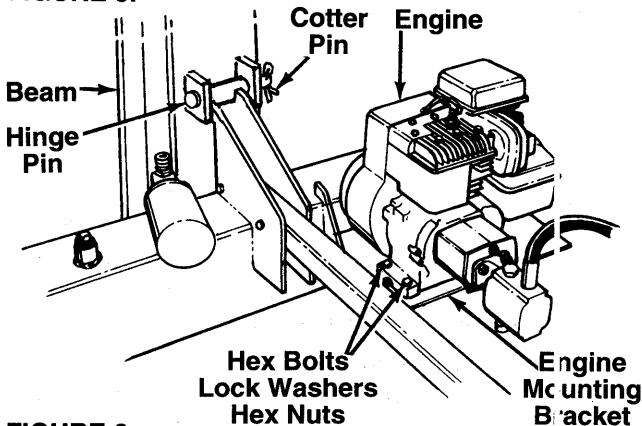

FIGURE 6.
2. Remove the cotter pin from the hinge pin, located on top of the reservoir tank assembly. Move the reservoir tank assembly in position against the beam. See figure 6.
2. Place the engine and pump assembly in position on the engine mounting bracket as shown in figure 6. Secure with hardware just removed. Tighten securely.